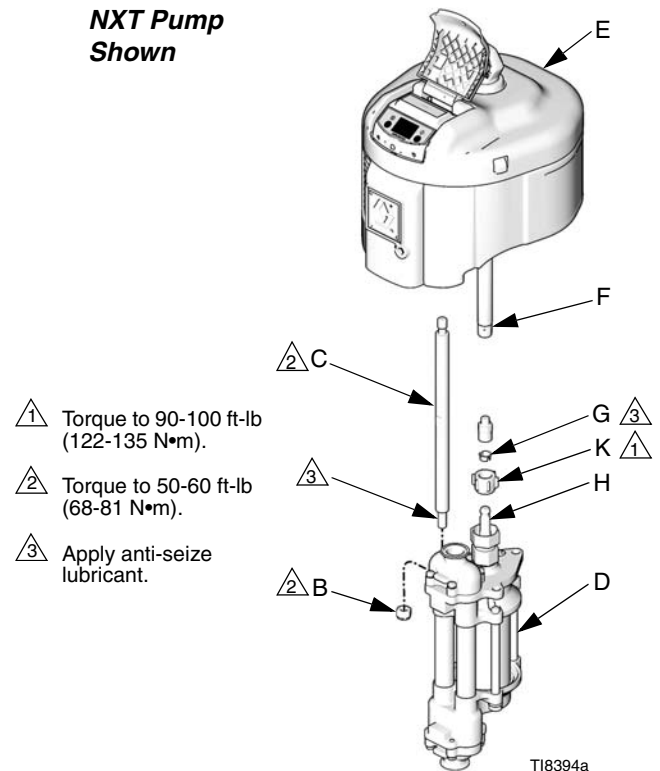
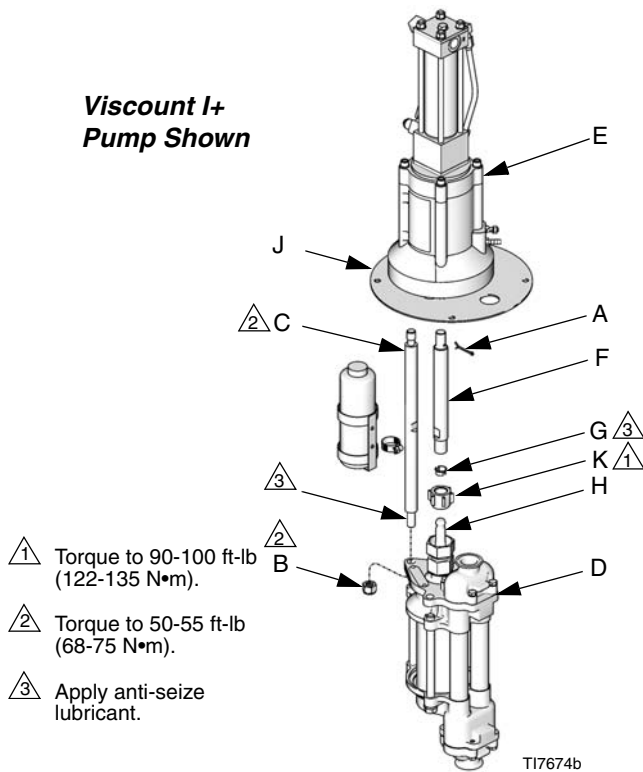

FIG. 2
FIG. 3
3. Loosen the coupling nut (K) and remove the collars (G). Remove the coupling nut from the piston rod (H). Unscrew the locknuts (B) from the tie rods (C). Pull the lower (D) off the motor (E). See FIG. 2 and FIG. 3.
1. Loosen, but do not remove, the screws holding the adapter plate (J) to the motor (E) on Viscount I+ pumps. See FIG. 3.
2. Screw the tie rods (C) into the adapter plate (J) and torque to 50-55 ft-lb (68-75 N•m). On Viscount I+ pumps, the tie rods will engage threaded holes in the base of the motor.
3. Fill the cavity in the bottom of the motor shaft with grease. Screw the coupling rod (F) into the motor shaft until the pin holes align. On Viscount I+ pumps, install the pin (A) in the first hole from the end of the coupling.
4. Align the lower (D) with the tie rods (C) and loosely install the tie rod locknuts (B).
4. Unscrew the coupling nut (K) from the piston rod (H). Allow the nut and collars (G) to rest on the piston rod. See FIG. 2.
7. Lift the motor shaft and remove the coupling nut (K) and collars (G). See FIG. 2 and FIG. 3.
- Install the o-ring (36†) on the throat cartridge (35). Apply lubricant to the throat cartridge threads then screw the cartridge into the upper pump housing (1). Torque the throat cartridge to 100 ft-lb (135 N•m).
- Tighten the packing nut (21) firmly and then turn the nut another 1/4 turn. If you have a torque wrench, tighten the packing nut to 30 ft-lb (40 N•m), then re-tighten to 15-20 ft-lb (20-27 N•m).
- Screw the coupling nut (K) and collars (G) onto the piston rod (H). Torque to 145-150 ft-lb (197-203 N•m). See FIG. 2.
- On Viscount I+ pumps, reinstall the pin (A). If necessary, reconnect the hydraulic supply and move the pump to the middle of its stroke. Install the pin in the first hole from the end of the coupling.